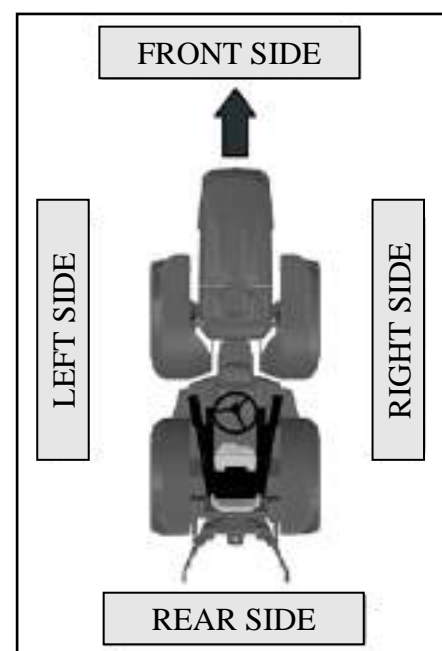

Fig. 1
- **View direction**, the position of the tractor is determined by the drawing and depends on the driving direction. Directions shown in the figure (Fig. 1) are used in the following pages of the operating instructions.